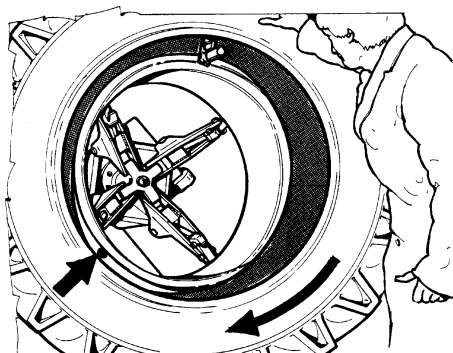

Fig.50
3. Place the hook tool as shown in Fig.50.